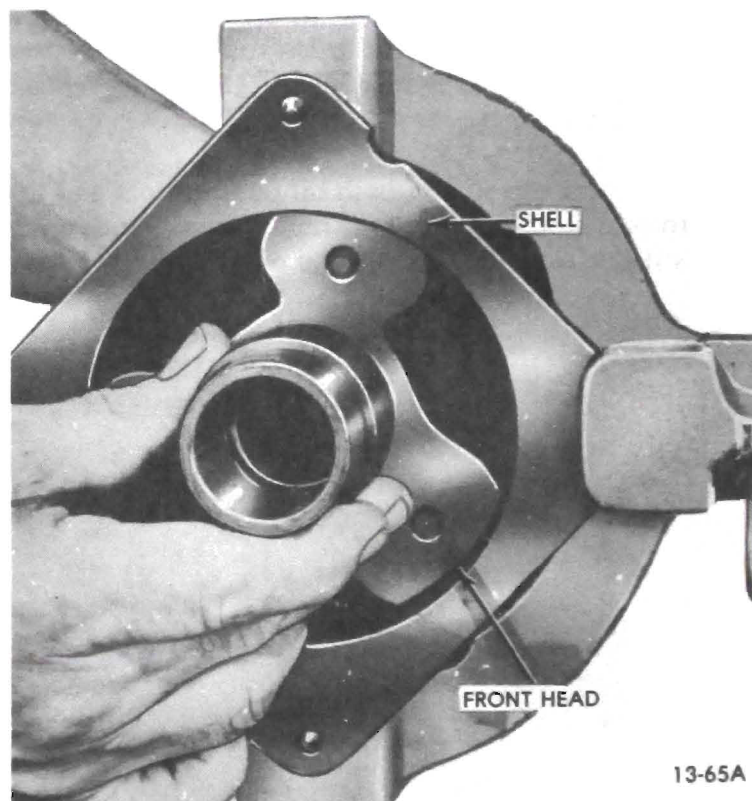

Figure 13-48 Removing Front Head
3. Disassemble front head from shell by tapping front head with a mallet to unseat head, and lifting straight out through rear of shell the front head and shell to head "O" ring (see Figure 13-48). Discard "O" ring.